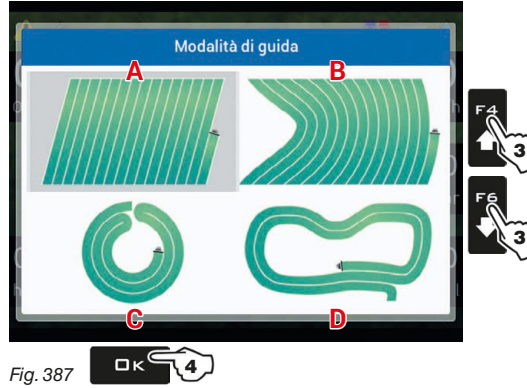

Fig. 387
- 3 Select a driving mode (Fig. 387): press **F4** and **F6** to move across the available items (**A - Straight driving mode, B - Curved driving mode, C - Pivot mode** or **D - Free driving mode**)